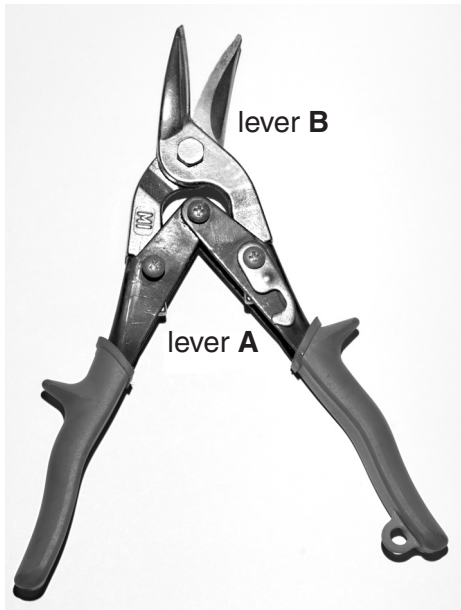

Fig. 4
- 6 A pair of snips used for cutting sheet metal is shown in Fig. 4. The snips use a compound lever action.
- (a) Mark the position of the load, effort and fulcrum for lever **A** on Fig. 4. [3]